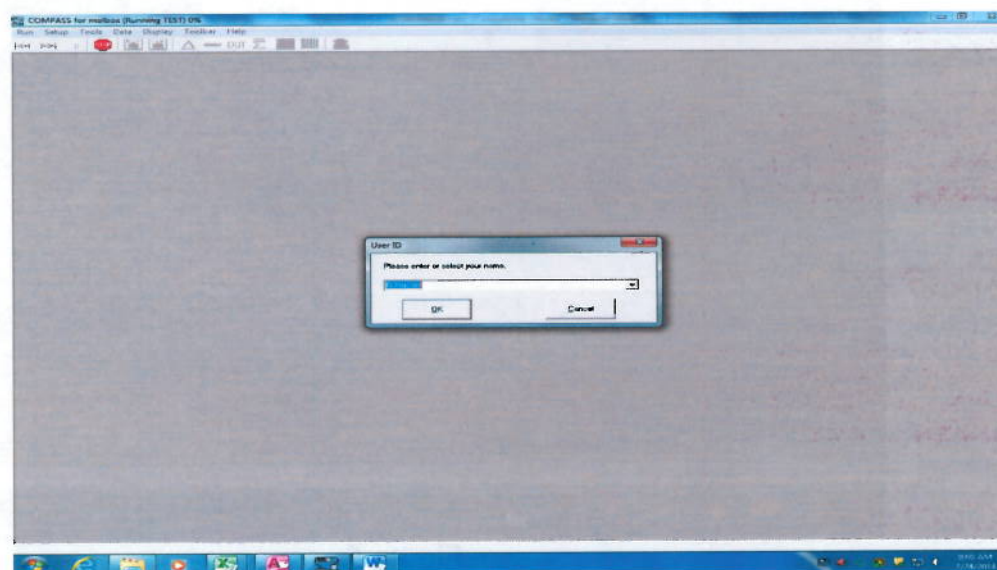

Figure 7
- 12.3.6 Enter your name then click on the “OK” button. See Figure 7.